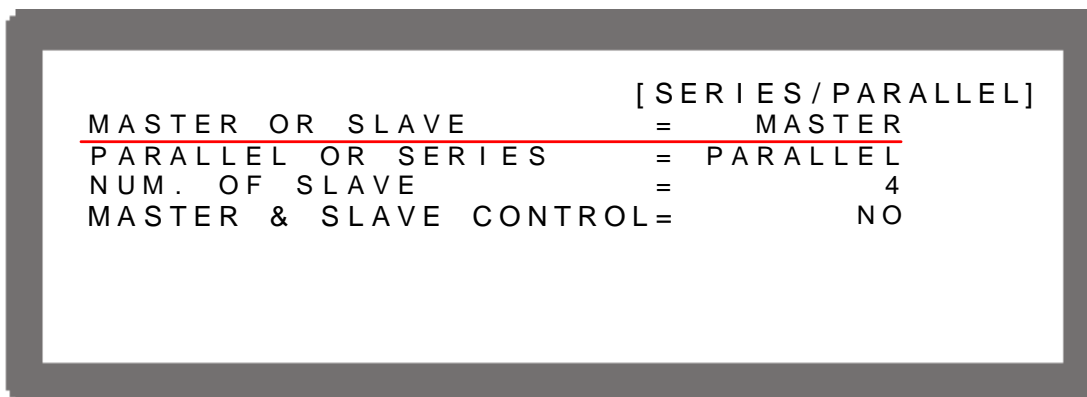

Figure 3-33
1. In Config Setup page, press “**3**” and “**ENTER**” to select PARALLEL /SERIES and display Figure 3-33.